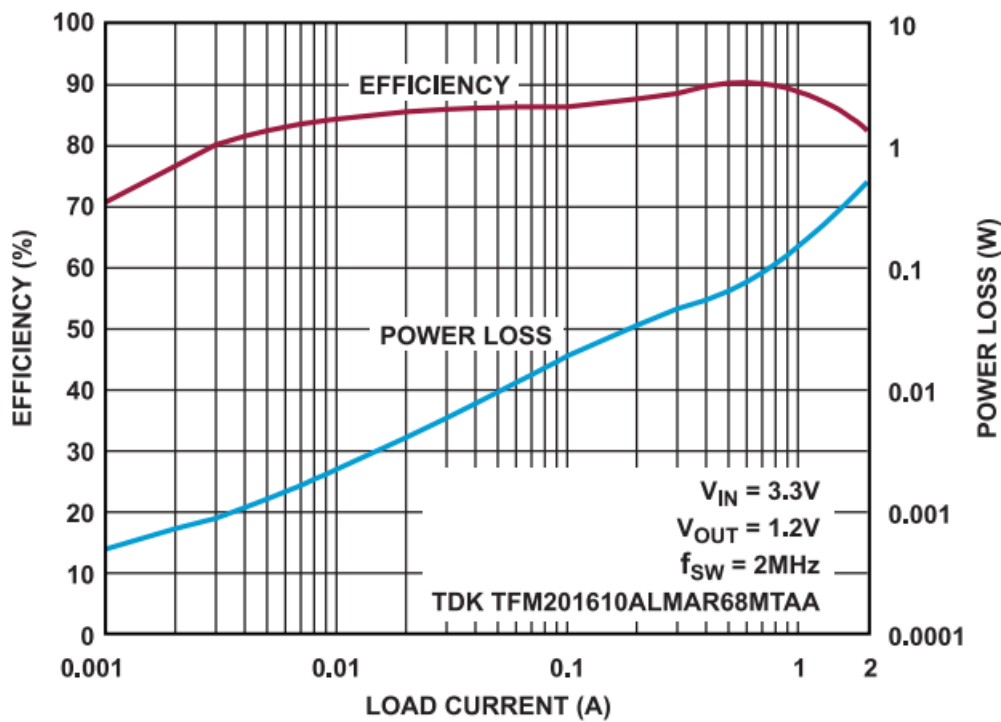

Figure 7. Efficiency and Power Loss in Burst Mode Operation
**Figure 7** shows the efficiency and the power loss of the circuit with a 3.3 V input in Burst Mode operation.